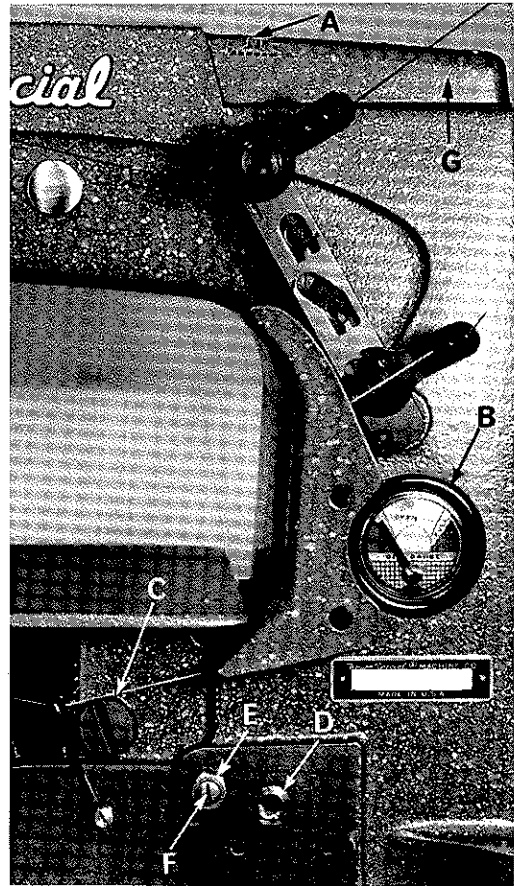
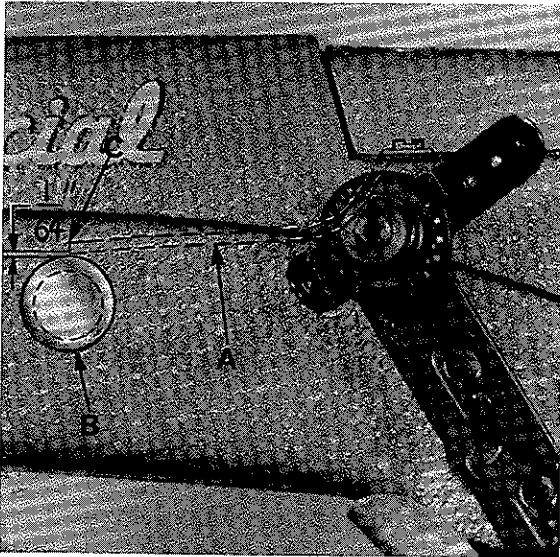

Fig. 2
Fig. 3
Use a straight mineral oil of a Saybolt viscosity of 90 to 125 seconds at 100° Fahrenheit in the main reservoir. This is equivalent to Union Special specification No. 175. Fill main reservoir at plug screw in upper crank chamber cover (A, Fig. 2) and check oil level at gauge (B). Oil is at maximum level when needle is in yellow band marked "Full". Oil should be added when needle is in yellow band marked "Low". Recommended grease No. 28604 P (See Page 10).
For machines in operation check the oil for dirt and lint deposits at reasonable intervals. If dirty, change the oil. An oil change is recommended every 2000 operating hours. Oil may be drained from main reservoir by removing plug screw (C, Fig. 2) located below the cloth plate at front of the machine, or by removing the lower crank chamber cover, located at the back of machine.
2. Remove the oil reservoir plug screw (C, Fig. 2) and tip machine forward to drain oil from the reservoir.
5. Fill main reservoir to a level even with the bottom contour of the knee press shaft bushing (D, Fig. 2).
6. Loosen lock nut (E) on calibrating screw (F), and turn the screw to the left or right until the gauge needle rests in the middle of the yellow band marked "LOW".
7. Tighten lock nut (E) and replace plug screw (C).
Remove the head cover and upper crank chamber cover (G, Fig. 2). Check position of needle lever bearings oiler (A, Fig. 3) located inside the arm casting, below the upper crank chamber cover, which lubricates the needle lever stud (B). Make sure it is tilted downwardly and that its delivery end (C) contacts the inside wall of the bed casting at the back, just above the notch of the needle lever shaft stop collar. (Do not allow the oiler to rest on the needle lever.) Allow 1/64 inch clearance as in Figure 3.